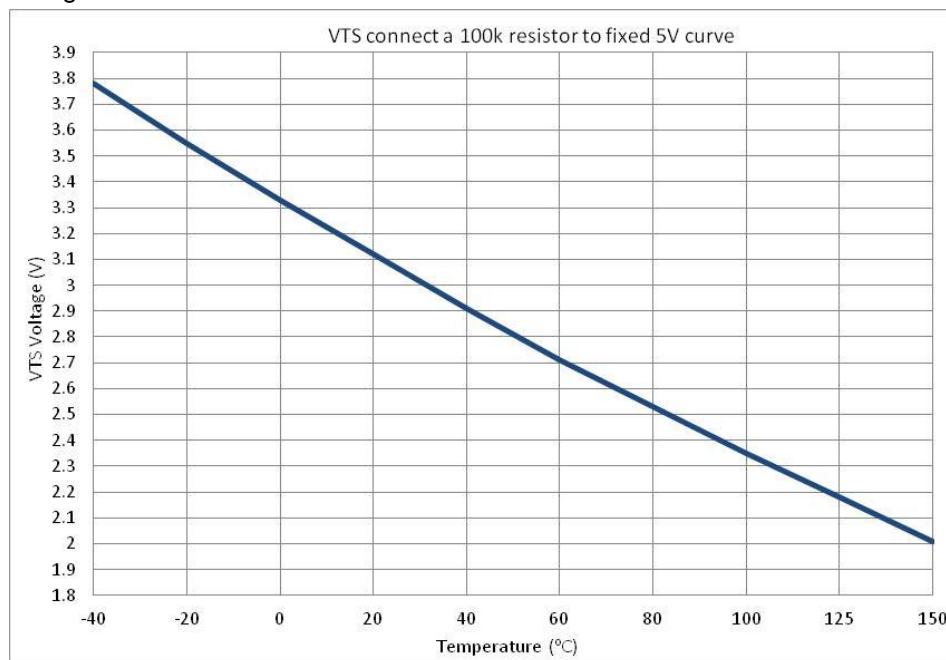

Fig. 3 – VTS voltage vs. IC Junction Temperature
- V_{TS} is only for sensing-temperature of module and cannot shutdown MOSFETs automatically. Related curve refer to Fig. 3